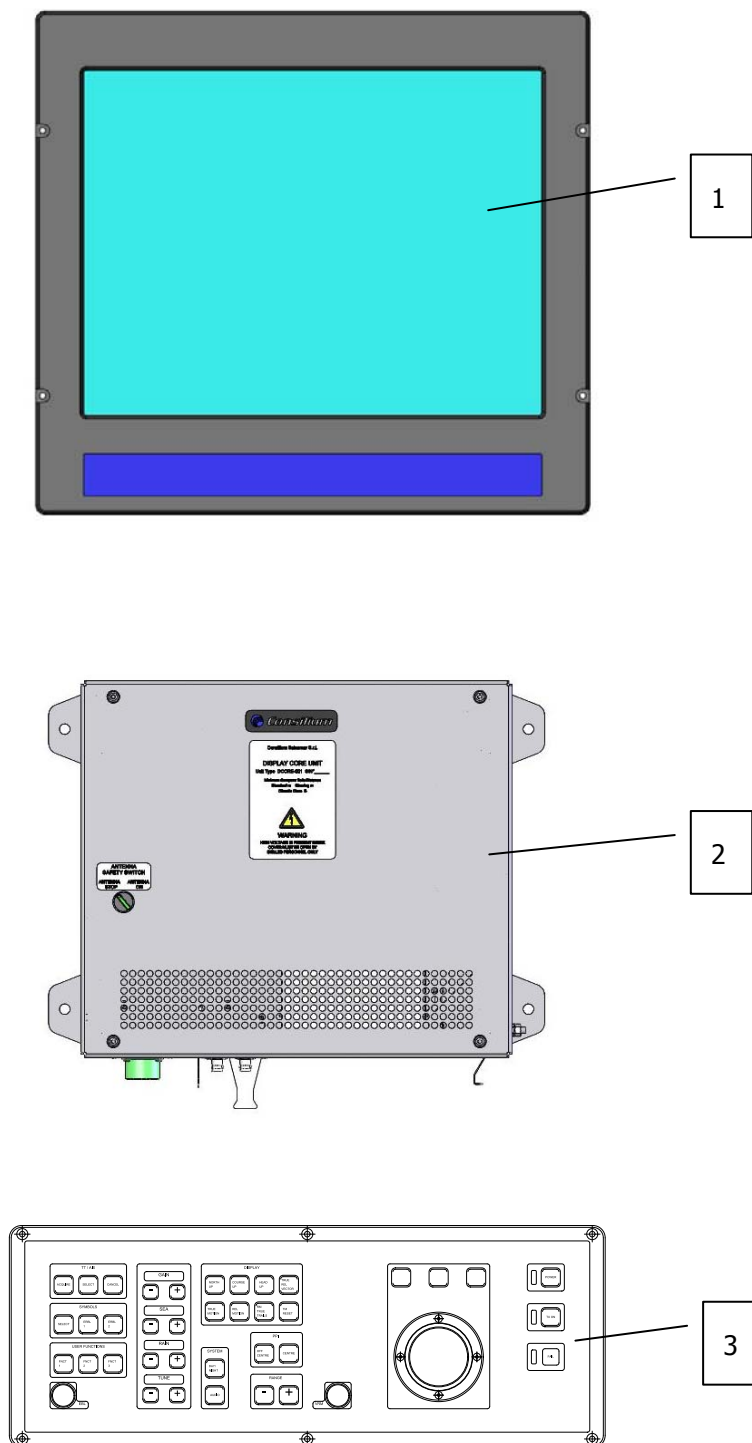

Figure 8.9.1 ARGUS Units
8.9.4 Parts List Tables**Table 8.9.1 - List of the Units (Figure 8.9.1)**